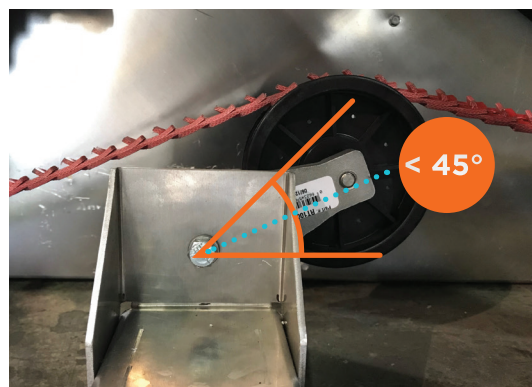

Figure 2.22
The belt tensioner is fastened to an aluminum plate aligned with the wheel motor. The tensioner is installed perpendicular to the frame with a small angle inclined away from the motor (see figure 2.23c). The motor belt will push down on the tensioner when installed. For optimal belt tension, the final position of the tensioner should be under **45-degree angle** of the wheel frame, see figure 2.22 for details.
5. Visually inspect that the belt is not twisted around the rotors and is properly located through the side seals. If the belt tension is too low (see figure 2.22), reduce the length of the belt.